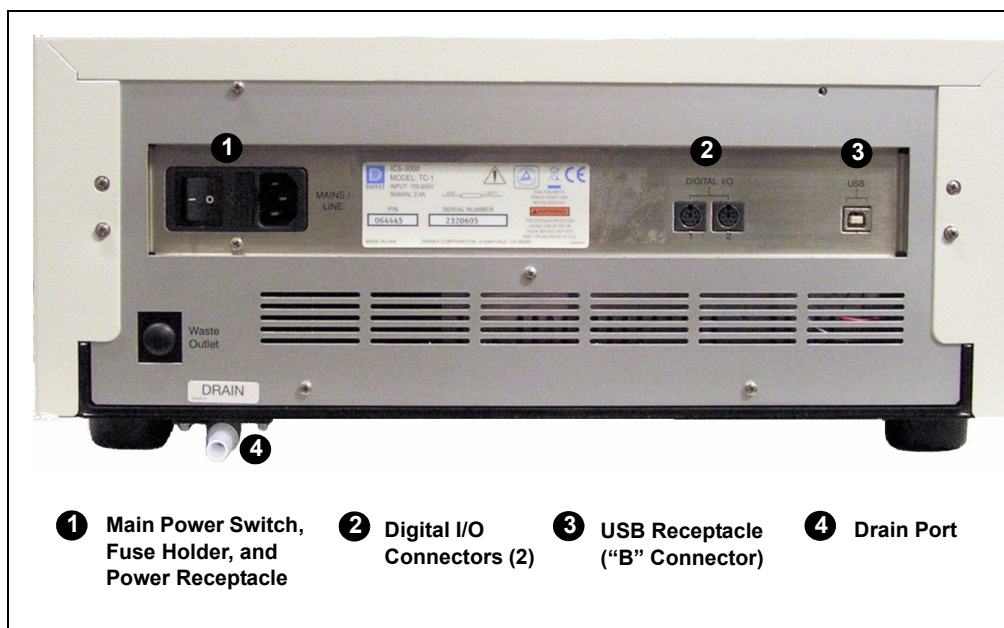

Figure 2-53. TC Rear Panel
**NOTE** The main power switch is on the TC rear panel (see Figure 2-53).
Figure 2-53 illustrates the rear panel of the TC.